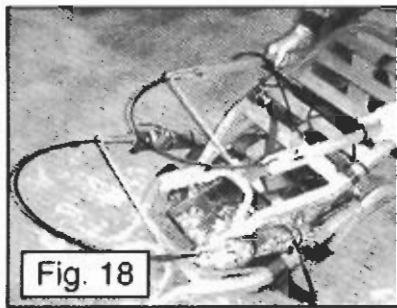

Fig. 18
A. To combine the Python XLS or Revolution Seat and Python XLS or Revolution Platform, place the Python XLS or Revolution Seat topside up on the ground as shown in **Figure 18**. Loosen the folding bar cables and slide them up over the comfort pads on the Python XLS.